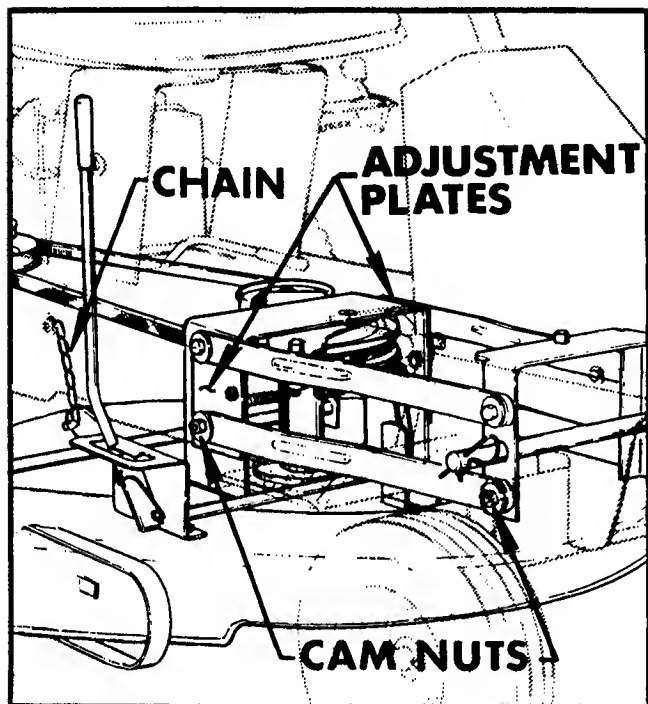

FIG. 28
For best cutting results the Blade should be $\frac{1}{4}$ inch lower in the front than at the rear. The Cutter Housing height is adjusted from front to rear by rotating the Special Cam Nuts shown in FIG. 28.
Raise or lower the rear of the Cutter Housing through the slotted holes where the Cutter Housing Chains are attached to the sides of the frame. See FIG 28.
- Loosen the three screws on each side of the Adjustment Plates. See FIG. 28.
Loosen the three screws on each side of the Adjustment Plate. See FIG. 28 on Page 13.